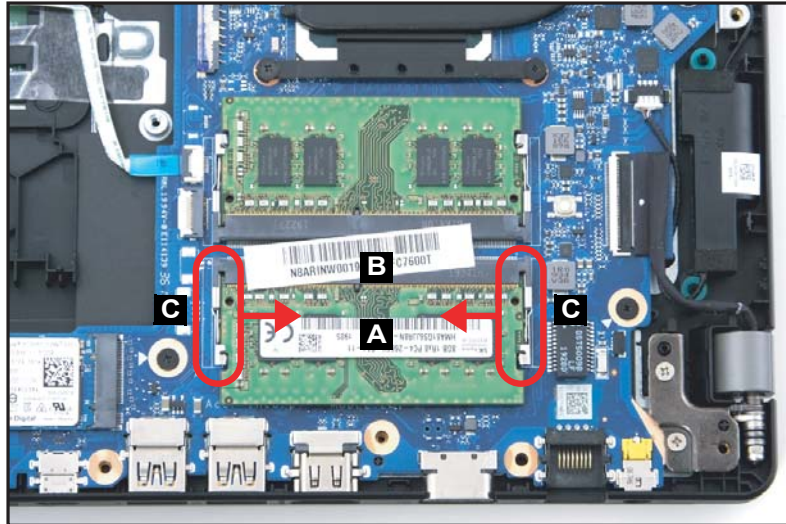

Figure 1-114. Replacing the DIMM Module
1. Insert the DIMM module (A) to the mainboard connector (B) (Figure 1-114).
2. Press down on the DIMM module until the module clips (C) lock into position as shown in Figure 1-114.